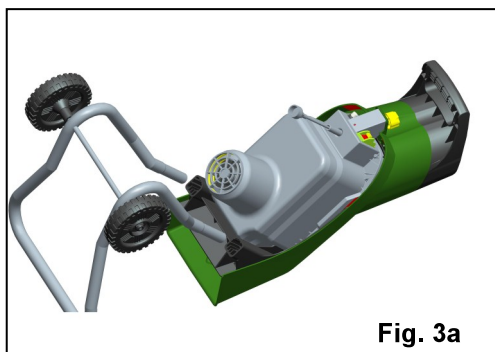

Fig. 3a
4. Turn the main body upside down, insert the two ends of the stand assembly into the housing, align the holes on the housing and stand assembly, insert the four washers ($\phi 5$) onto the ST5 X 20 screws (A) and install into the stand assembly. (See Fig. 3a, 3b).